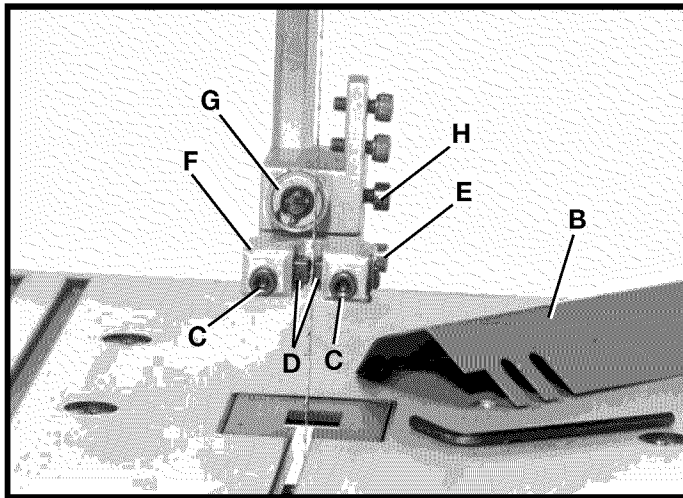
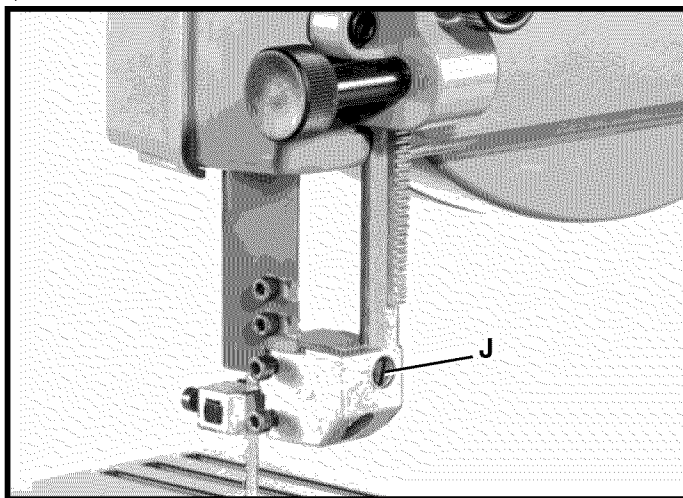

Fig. 27
Fig. 28
2. **NOTE:** Upper blade guard (B) Fig. 27, is shown removed for clarity.
3. Loosen the two screws (C) Fig. 27, and adjust the blade guides (D) as close as possible to the sides of the saw blade, being careful not to pinch the blade. Then tighten the two screws (C).
4. Loosen screw (E) Fig. 27, and move the guide bracket (F) in or out until the front edge of the guides (D) is just behind the "gullets" of the blade teeth. Then tighten screw (E).
5. The upper blade support/thrust bearing (G) Fig. 27, prevents the saw blade from being pushed back too far when cutting. The support bearing (G) should be adjusted approximately $1/32$ " behind the rear edge of the blade, so the back edge of the blade overlaps the outside diameter of the ball bearing by approximately $1/8$ ". To adjust, proceed as follows:
7. Loosen screw (H) Fig. 27, and slide support bearing (G) in or out until it is approximately $1/32$ " behind the rear edge of the saw blade. Then tighten screw (H).
8. The upper blade support bearing (G) Fig. 27, is set on an eccentric shaft. To change position of bearing (G), loosen screw (H) Fig. 27, and using a straight screwdriver, rotate shaft (J) Fig. 28, until the blade properly overlaps the support bearing. Then tighten screw (H).